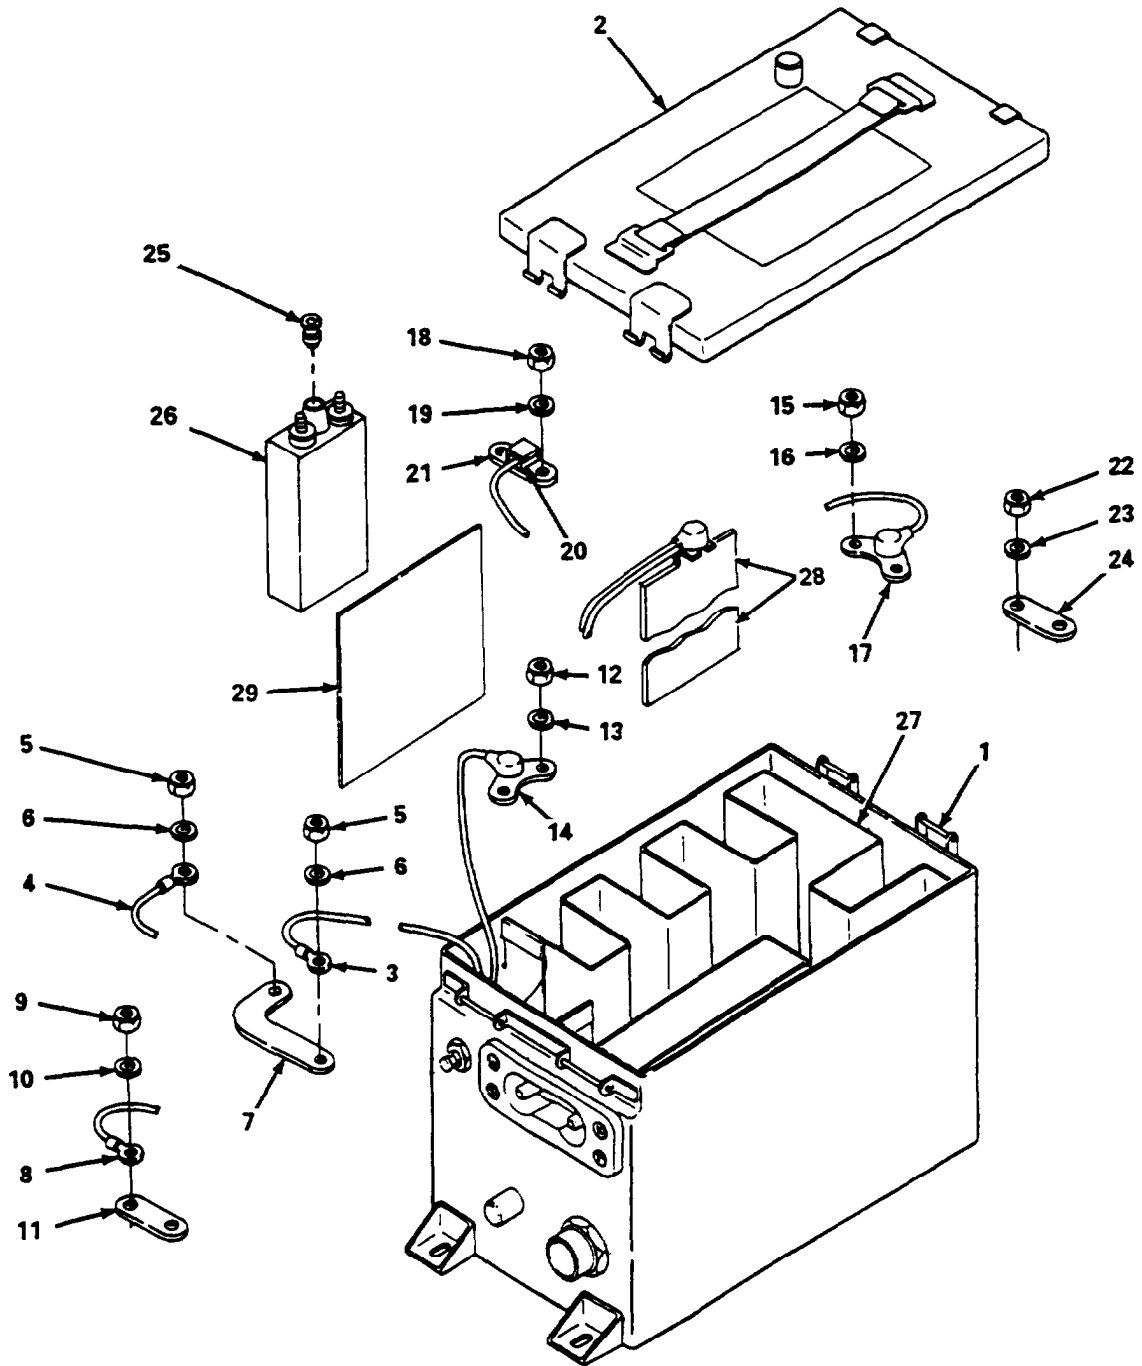

Figure 3-20. Battery BB-558/A Heater Element Replacement.
- (e) Tag and cut leads going to thermostat (6).
- (g) Strip leads on new thermostat (6) and leads in battery case, approximately 0.125 in. (3.17 mm) back.
- (k) Install new thermostat (6) on link (5) and secure with nut (7).
- (l) Install link (5) and thermostat (6) and secure with two nuts (3) and washers (4). Torque nuts to 80-94 in-lb.
- (m) Install and close cover (2) and secure with two latches (1).
(4) Heater Element Replacement (figure 3-20).
- (a) Unsnap two latches (1) and open and remove cover (2).